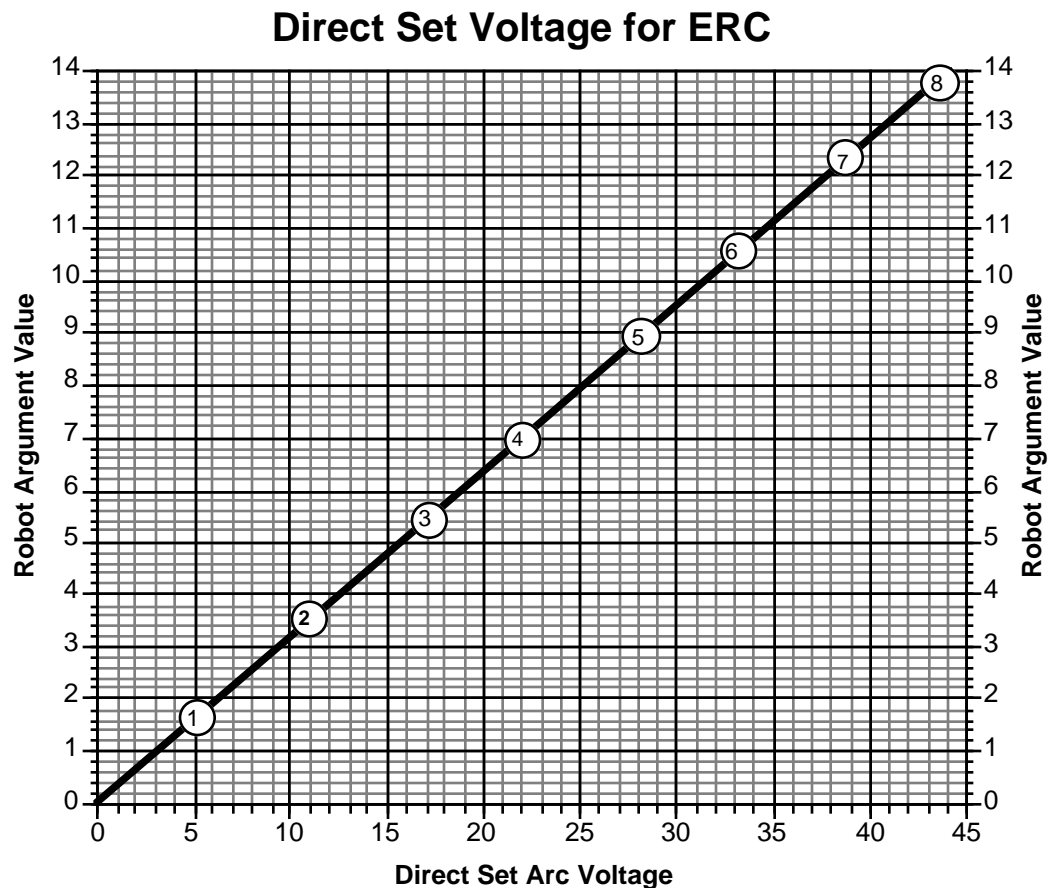

Figure 12-1 Absolute Welding Voltage Settings
NOTE: In Figure 12-1, the range is given as 0 to 44.0 volts. Not all welding power sources will be able to produce 44 volts at their rated current. For example, an Excel-Arc 6045 (rated at 450 amps, 36 volts) may produce 44 volts at 100 amperes, but not at 450 amperes.
The absolute welding data will be entered into an eight-point table (see Figure 12-1). The ERC uses a curve fit program and the absolute data to estimate actual welding current and voltage. The first data point cannot be entered with a command value of "0" with a measured value of "0" in the table. This will cause problems during actual welding if the setting is called by the computer.
NOTE: The chart in Figure 12-1 is for the Excel-Arc 6045, the Excel-Arc 8045, the ArcMaster 351, the ArcMaster 500, and the ArcMaster 501. Other welding power sources will be different. Contact Motoman for the correct tables for other welding power sources.
1. Using down arrow key, move cursor to first line under COMMAND VALUE (V).
5. Enter each command value from the chart in Figure 12-1.
6. Using down arrow key, move cursor to first line under MEASURED VALUE (V).
9. Enter each command value from the chart in Figure 12-1.